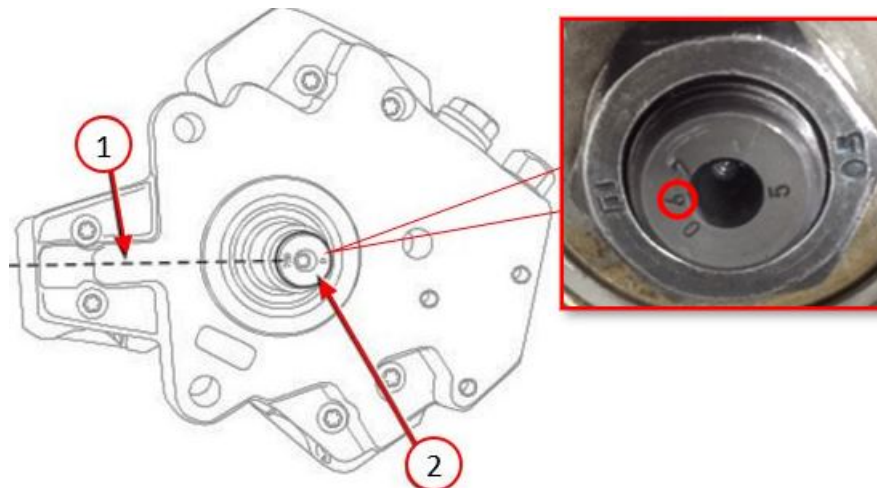

Fig. 7
18. Rotate the injection pump shaft until the number ****6** (located in the center of number 067 and 0) is positioned at 9 o'clock (Fig. 7) .